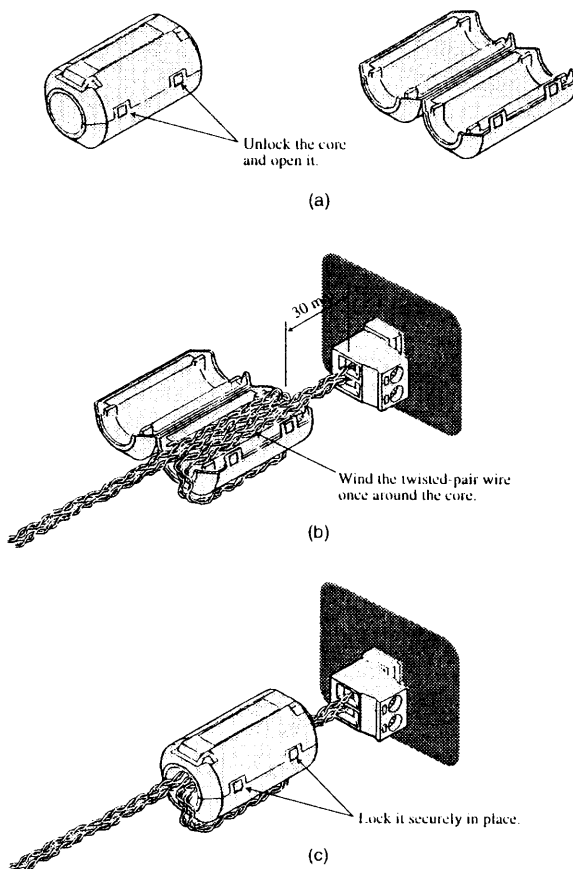

Fig. 2-6 Installing a TP-BUS core
1. As shown in Fig. 2-6 (a), unlock the core and open it.
2. As shown in Fig. 2-6 (b), wind the twisted-pair wire once around a half core.
3. As shown in Fig. 2-6 (c), close the core. Avoid catching the wire on the core.